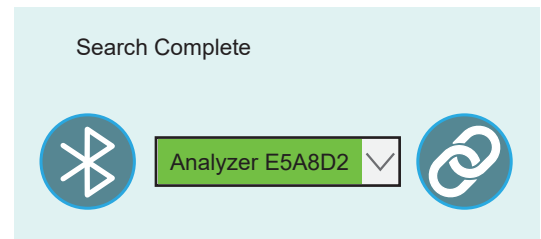

Figure 38. Successful Connection
- The drop-down menu will turn green when connected. See Figure 38.